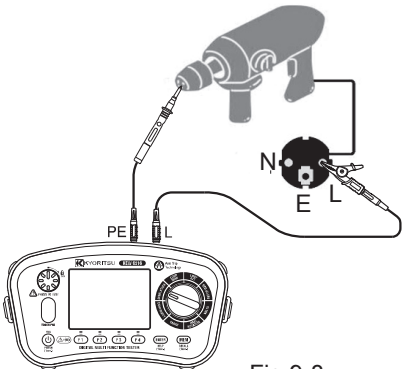

Fig.9-8
(2) Make connections as Fig. 9-8 and 9-9 show to check insulation.